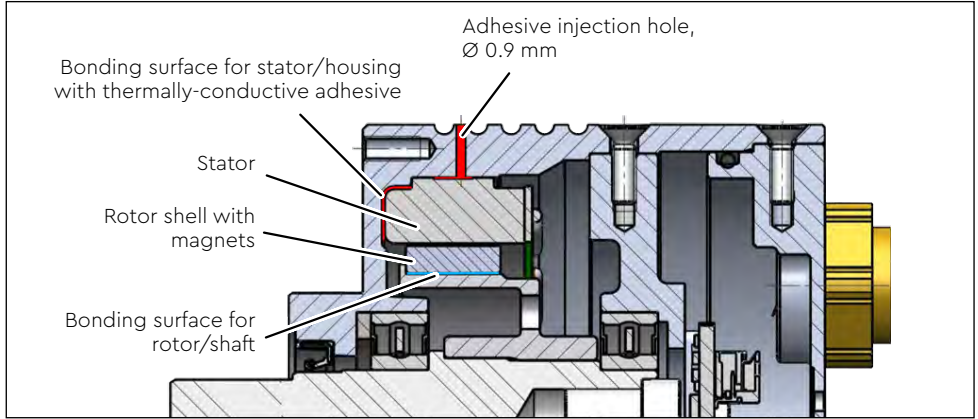

Fig. 11: Bonding surfaces on stator and rotor
- ▶ Clean and degrease the bonding surfaces (see Fig. 11 on page 21) following the adhesive manufacturer's instructions.